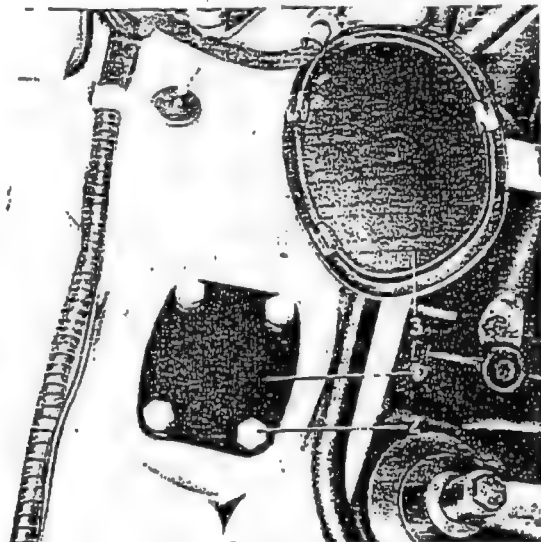

Fig. 33-1/16a
Note: On Model 230 SL a stop (1) has been provided at the upper part of the front axle suspension in order to limit the upward spring travel of the rubber mounting (Figs. 33-1/16a and 16b).